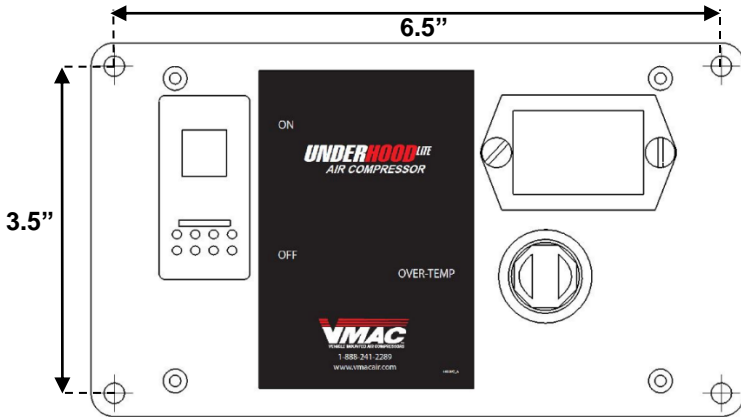

Figure 9.2 (dimensions in inches)
- Determine an appropriate location for the control panel and install the control panel using the four #10 holes (Figure 9.2). A mounting bracket may need to be fabricated (bracket and hardware not included with kit).